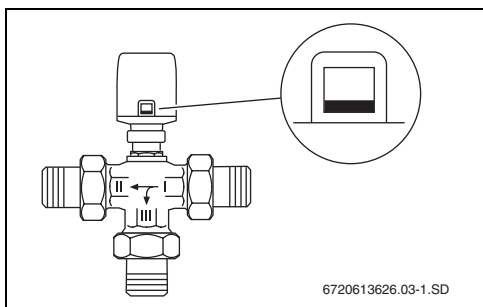

Fig. 4 Position indicator when valve is de-energised.
- The position indicator is only just visible (→ Fig. 4).